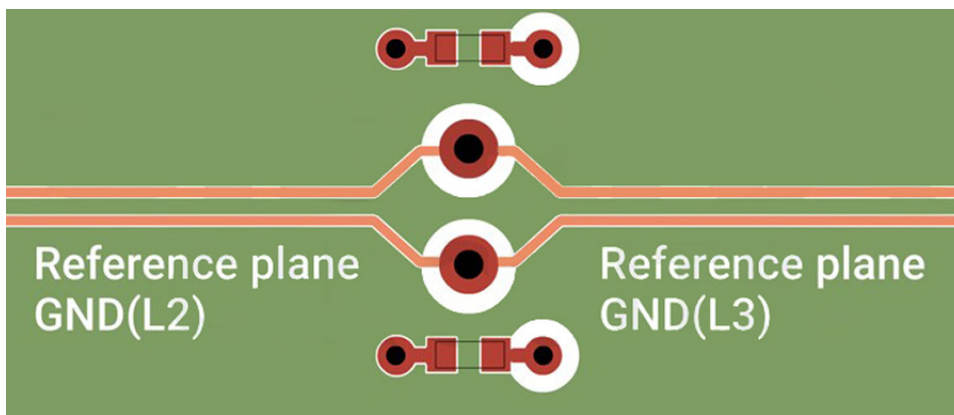

Figure 4. Adding stitching capacitors over two reference planes can achieve uniform impedance.
- When routing signals over two reference planes, incorporate stitching capacitors to achieve a continuous signal return path (**Figure 4**).